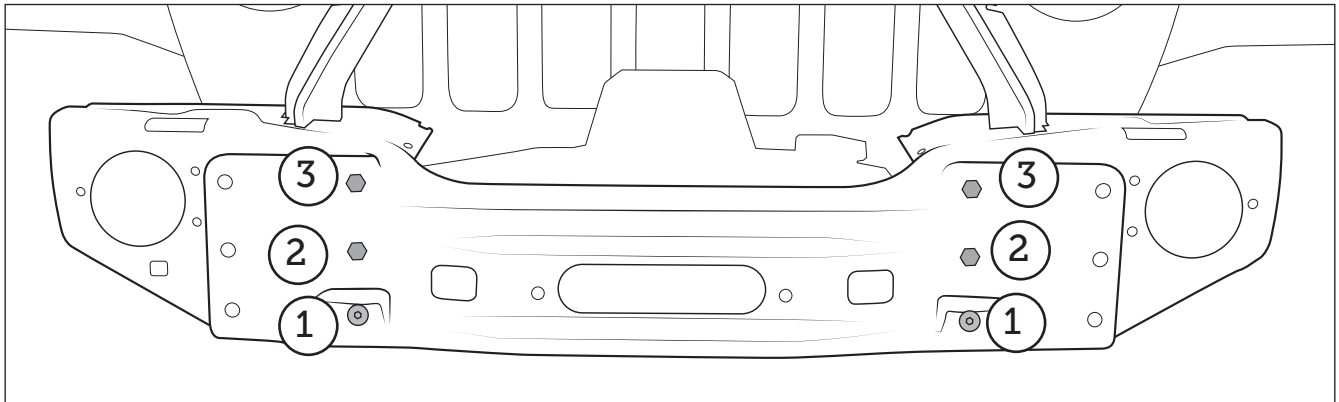

Figure 15
2. Install mounting hardware for main weldment (fig. 15). Depending on the winch used (such as Warn Zeon), access to the nuts on bolts 1 and 2 is very limited. They may need to be fed from behind the winch with a socket/extension.